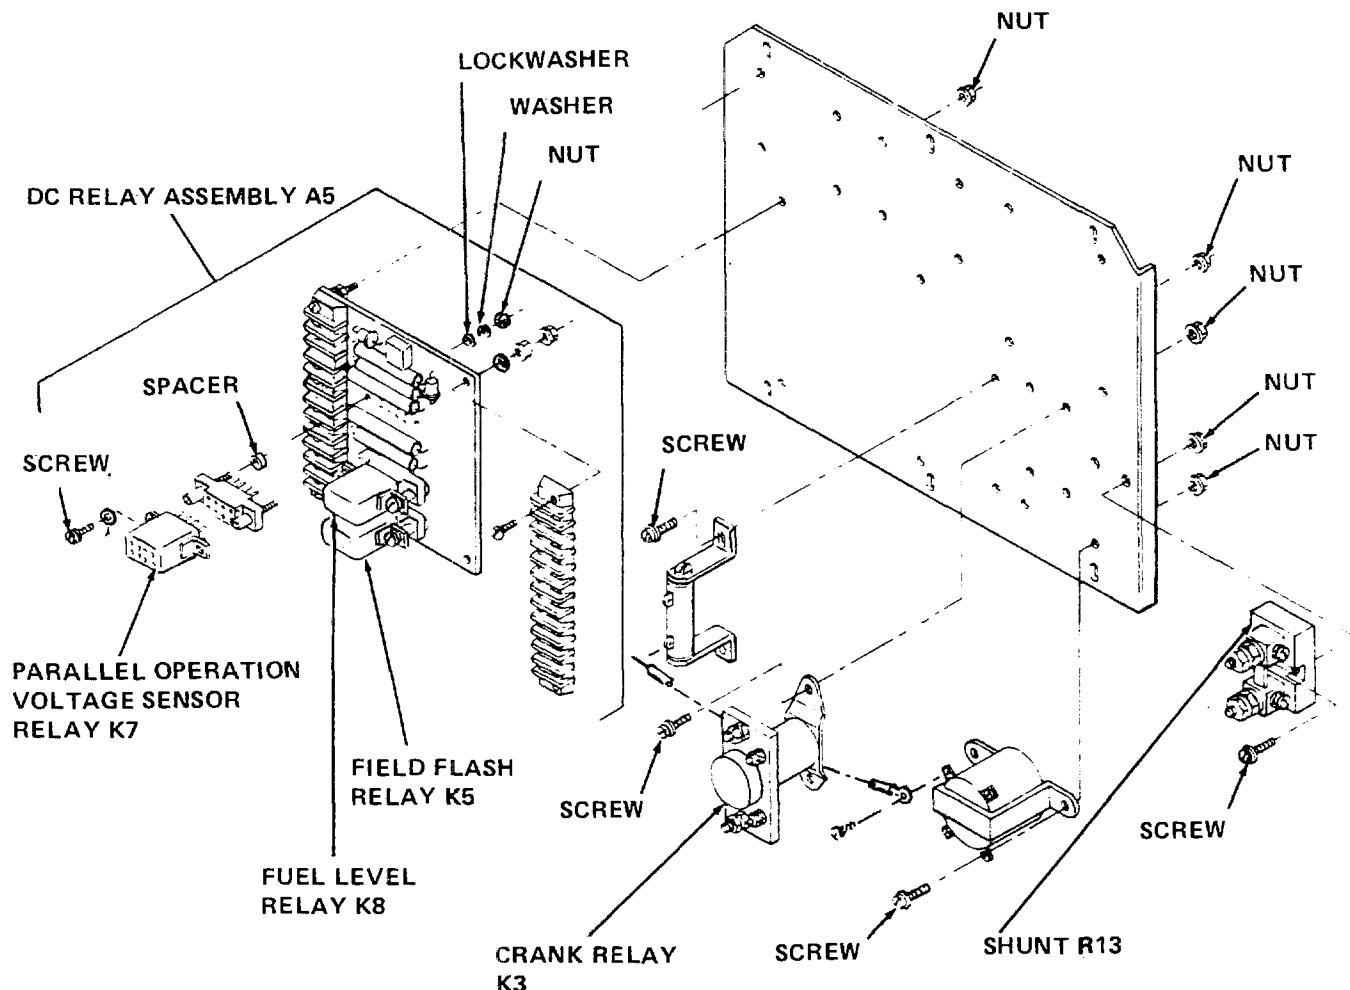

Figure 4-20. Electronic Component Assembly, A27,
a. Removal. Remove relay being tested as illustrated in figure 4-20.
(1) Temporarily disconnect connector P5 from mode I relay box.
(2) Connect a multimeter (set to RX1 scale) across terminals A1 and A2 of relay K3.
(3) Connect a 24 V dc supply across terminals X1 and X2 of relay K3.
(4) Observe that multimeter reads less than 1 ohm.
(5) Disconnect 24 V dc supply.
(6) Observe that multimeter reads infinite ohms.
(7) Repeat steps (3), (4), and (5), and (6) several times to ensure that relay works consistently.
(7) Connect multimeter across pins 4 and 6.
(8) Reconnect 24 V dc supply to pins 2 and 7.
(9) Observe that multimeter reads less than 1 ohm.
(10) Disconnect 24 V dc supply.
(11) Observe that multimeter reads infinite ohms.
(12) Repeat steps (2) through (11) several times to ensure that relay works consistently.
(13) If multimeter does not produce required reading, relay is defective and must be replaced.
f. Installation. Install relay as illustrated in figure 4-20.